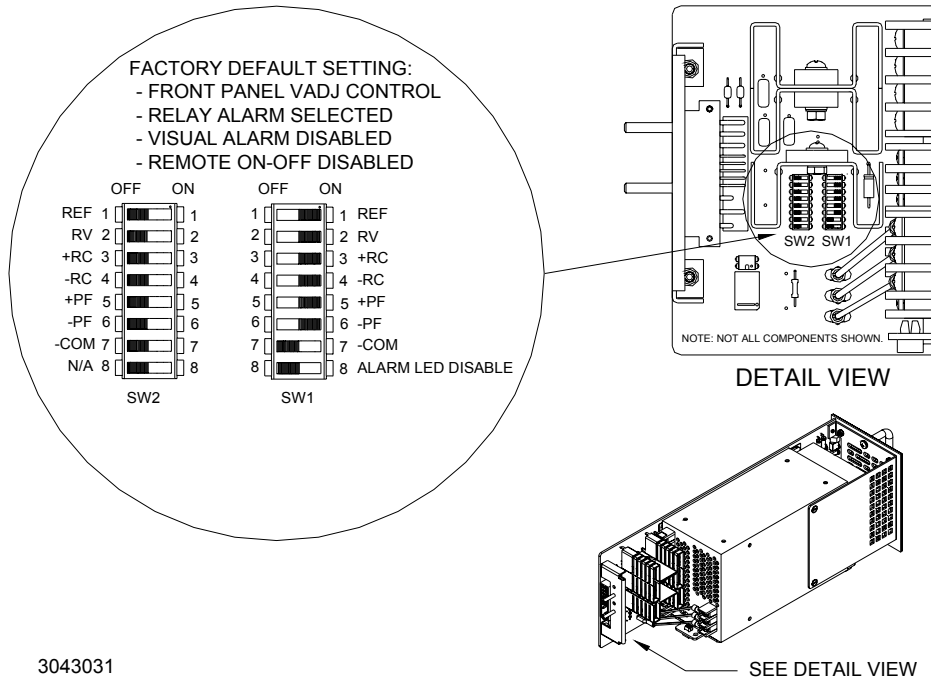

FIGURE 4. DIP SWITCH CONFIGURATION
The HSF (M) 600W Series incorporates two DIP switches, SW1 and SW2 (see Figure 4), which must be configured before the unit is installed in the rack adapter. The DIP switches control the following parameters:
Output voltage can be manually adjusted with the voltage adjustment control,  $V_{adj}$  (see Figure 5 for location) when DIP switches SW1 and SW2 (see Figure 4 for location) are configured as shown in Figure 6A (factory default) To adjust voltage, first place the unit under an operating load. Then monitor the (+) and (-) test points on the front panel with a precision voltmeter and turn the voltage control to the desired operating value. Refer to Table 2 for the recommended Adjustment Range of all the HSF (M) 600W Models.